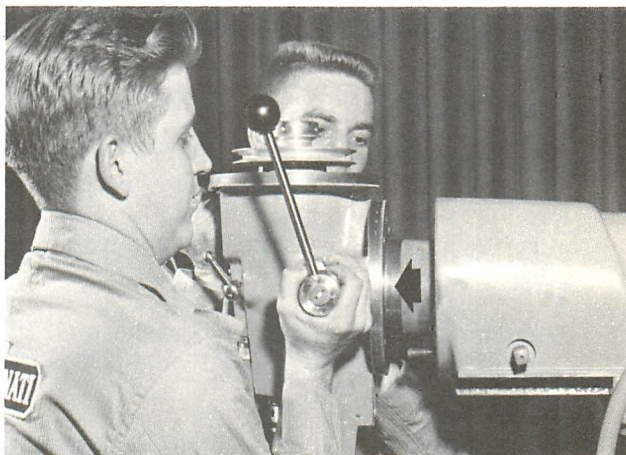

FIGURE 15B
2. Remove four nuts (95B, page 30; 135B, page 32). Pull spindle housing straight out of overarm. This housing assembly weighs approximately 60 lb. [See Figure 15B.]
When assembling, the tee bolts (96B, page 30; 133B, page 32) could be held in correct positions, in circular slot at end of overarm, by heavy grease until spindle head is pushed into place in overarm. [See Figure 15B.] Spiral gear (111B, page 30; 129B, page 32) must mesh with spiral gear shaft (237B, page 36) as housing is pushed into overarm.
When assembling, the tee bolts (423B) could be held in correct positions, in circular slot at end of overarm, by heavy grease until spindle head is pushed into place in overarm. [See Figure 15B.] Spiral gear (419B) must mesh with spiral gear shaft (416B) as housing is pushed into overarm.